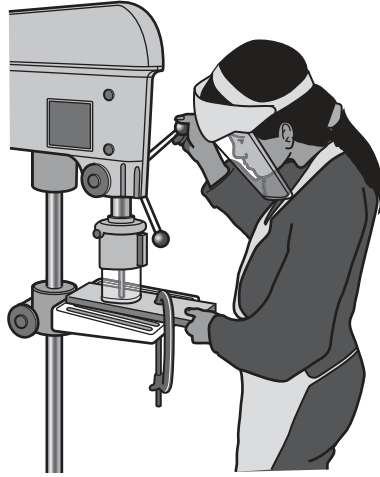

Fig. 1.1
- 1 Fig. 1.1 shows a student using a pillar drill.